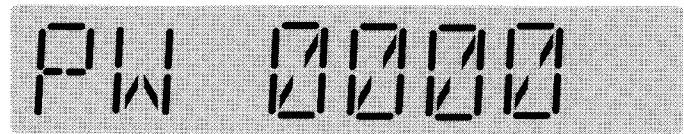

Figure 4-4 Set Password Display
- Step 3:** The next display will ask for the entry of a valid password (Figure 4-4). Keep in mind that the factory programmed password is **10000**.